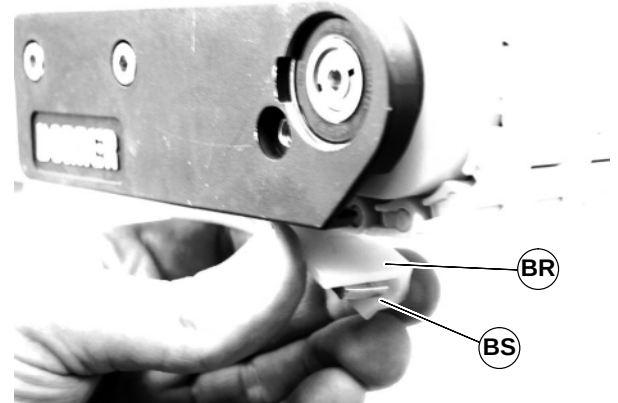

Figure 61
1. Remove old wear strip (BR) by sliding off of support extrusion (BS of Figure 61).